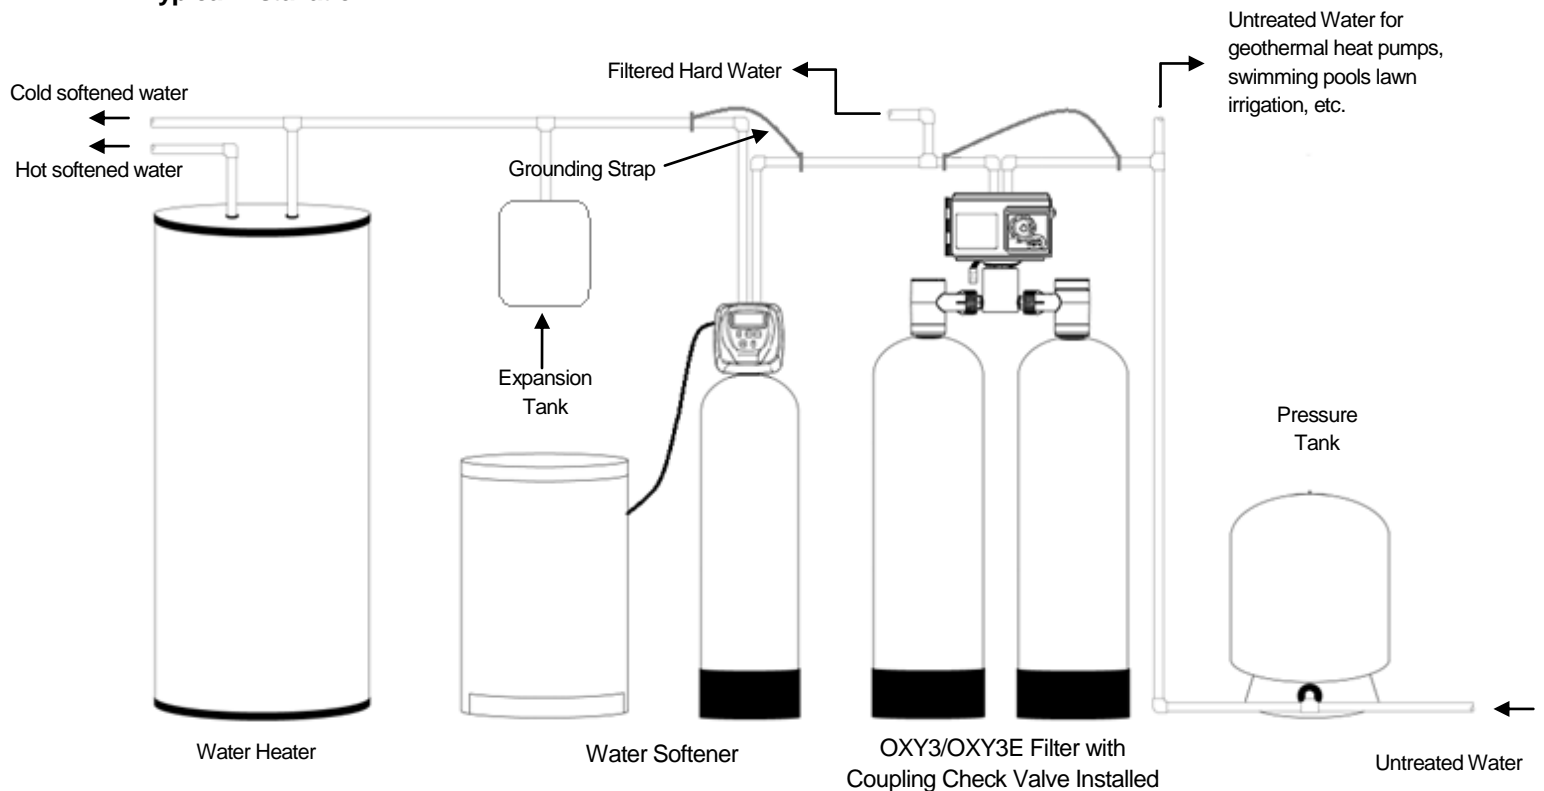

FIGURE 1: Typical Installation
7. Appliances requiring extended periods of continuous or high flow water use (i.e. geothermal heat pumps, swimming pools, lawn irrigation, outside hose bibs, etc.) should bypass the filter and a spring check valve should be installed on the filter inlet to prevent backflow of air from the aeration tank (see installation diagram Fig. 1).
- If there are any branches in the plumbing between the pressure tank and the OXY you must install the CKV-1 coupling check valve and an expansion tank (Figure 1, Page 4). See CKV-1 installation instructions on page 21.**